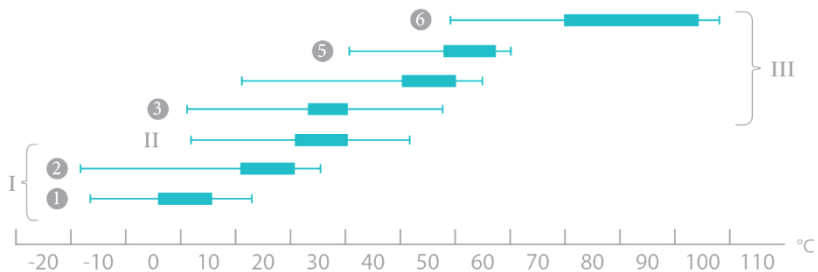

Figure 4. Temperature boarders and optimal growth zones of prokaryotes and their classification.
9.1 **Temperature distribution specifics (psychrophiles, mesophiles, thermophiles).** The optimal growth temperatures of microorganisms are divided in three principal groups (see fig. 4):
- Psychrophiles (I) – obligate (1) and facultative (2);
- Mesophiles (II);
- Thermophiles (III) – thermotolerant (3), facultative (4), obligate (5) and extremophile (6).